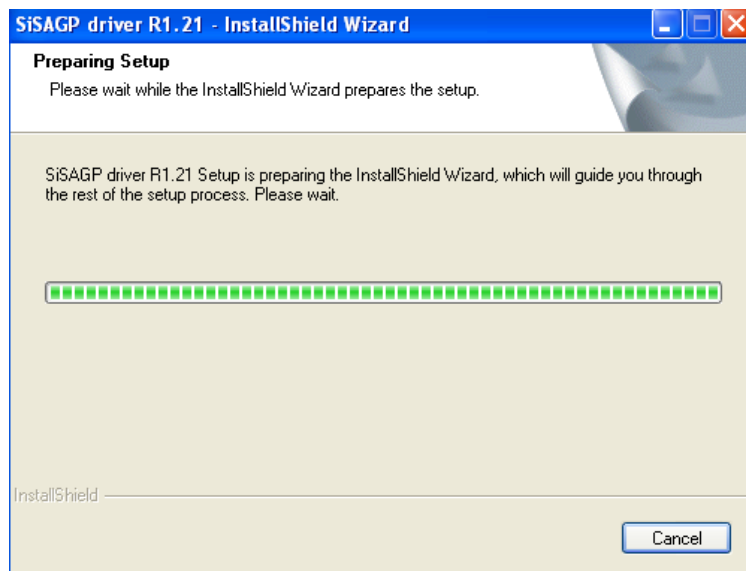

Figure 7-5: AGP Driver InstallShield Wizard Initialization
Step 6: The InstallShield Wizard prepares the setup. See **Figure 7-5**.